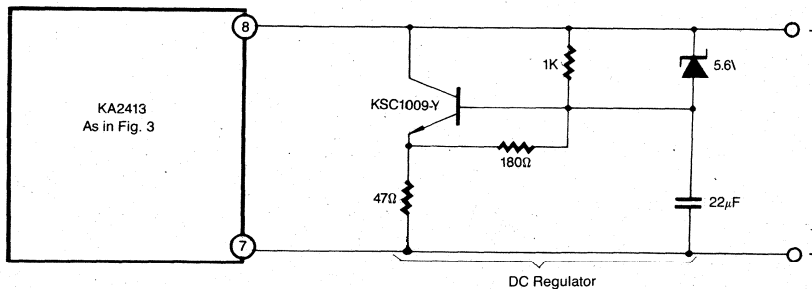

Fig. 4
- In application where a DTMF generator directly powered from the telephone line is wanted (the generator is not working in parallel with any kind of speech network), KA2413 can be used with a DC regulator as described in fig 4. This schematic gives a DC regulator for the range 16 — 100mA.